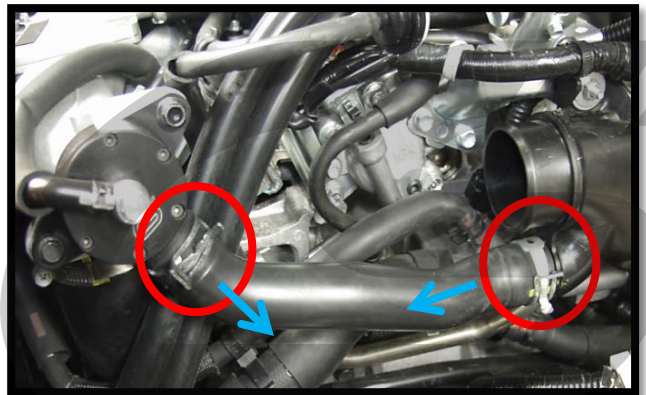

Figure 3a
- a. Using pliers, release the hose clamps connecting the bypass valve (BPV) hose to the TIP and BPV (clamps circled in red in Figure 3a). Slide the clamp back along the tube.
- b. Pull the end of the BPV hose off the end of the TIP and off the BPV itself. Pull in direction shown with blue arrow in Figure 3a.